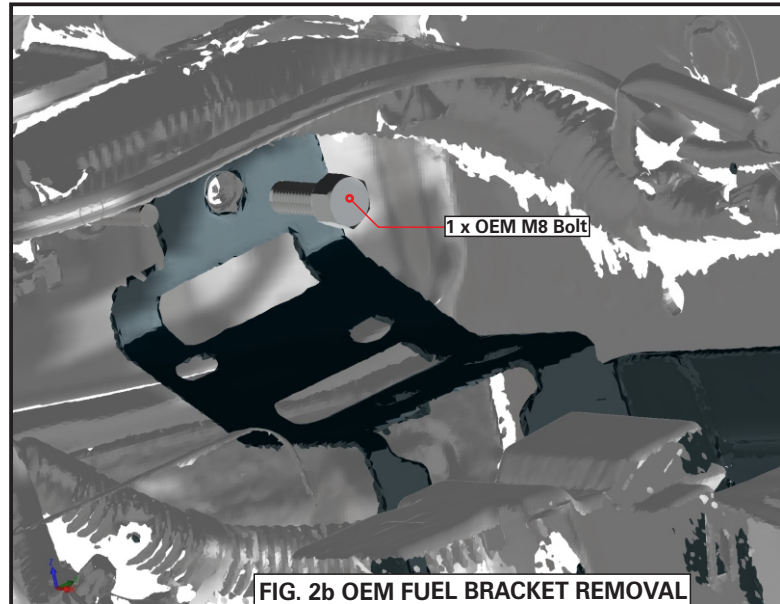

FIG. 2b OEM FUEL BRACKET REMOVAL
5. Unscrew the OEM M8 bolt shown in Fig. 2b. Place this M8 bolt with the other 2 OEM M8 bolts as you will be using these to fit the supplied FB9810FC bracket later.